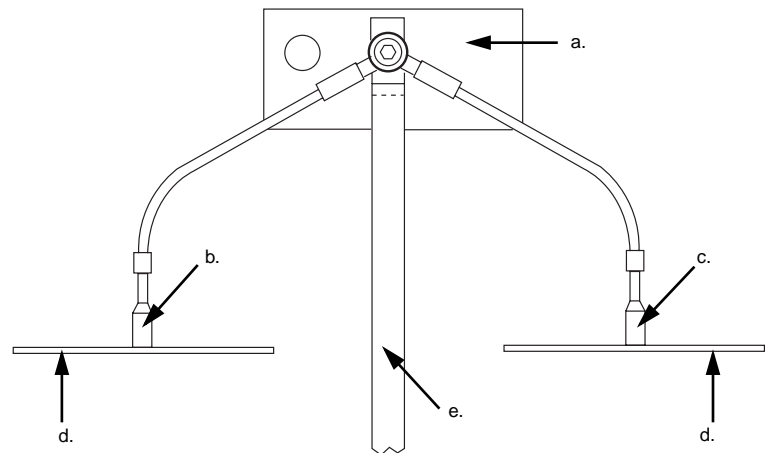

Figure 4.3.33: Snubber Board Wires
Notes to Figure 4.3.33:
- NOTE: To ease the removal of the DB IGBT module, it may be necessary to remove the DB extender bus that connects the DB diode connector to the PA output terminal (see Figure 4.3.1 on page 4.3.5, Figure 4.3.33, Figure 4.3.30 on page 4.3.44 and Figure 4.3.31 on page 4.3.45). Two hex head screws secure it. The top screw also secures one or two snubber board wires.*
4. If during the removal of the DB IGBT module(s), it was necessary to remove the DB extender bus that connects the DB diode connector to the PA terminal (see Figure 4.3.1 on page 4.3.5, Figure 4.3.33 on page 4.3.54, Figure 4.3.30 on page 4.3.44, and/or Figure 4.3.31 on page 4.3.45), reinstall it and secure it with two hex head screws. The screw for the PA terminal end of the extender bus also secures one (or two) black snubber board wire(s) (see Figure 4.3.33 on page 4.3.54). Torque both screws to 36 lb-in (4.0 N•m).